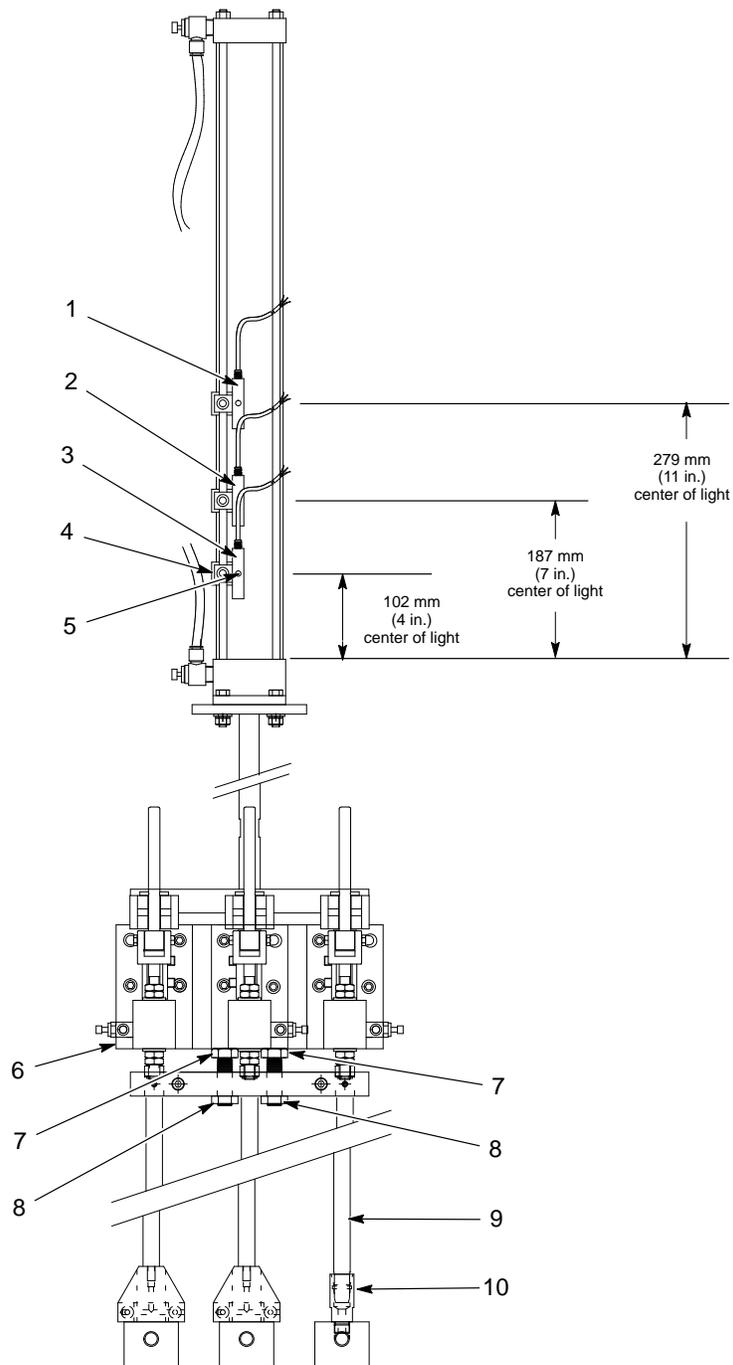

Figure 7-1 Bottom of Stroke Sensor and Stop Bolt Realignment
See Figure 7-1.
4. Turn both stop bolts counterclockwise until their heads are firmly against the bottom of the linear slide (6). When both stop bolts are firmly in place, lock them into position using the jam nuts (8).
**NOTE:** Figure 7-1 shows the typical locations of the three sensors on the cylinder rod. Use these dimensions only as a starting point for aligning the sensors.
5. Loosen the sensor bracket (4) and slide it up and down the cylinder rod until the LED (5) illuminates. With the LED illuminated, tighten the sensor bracket.